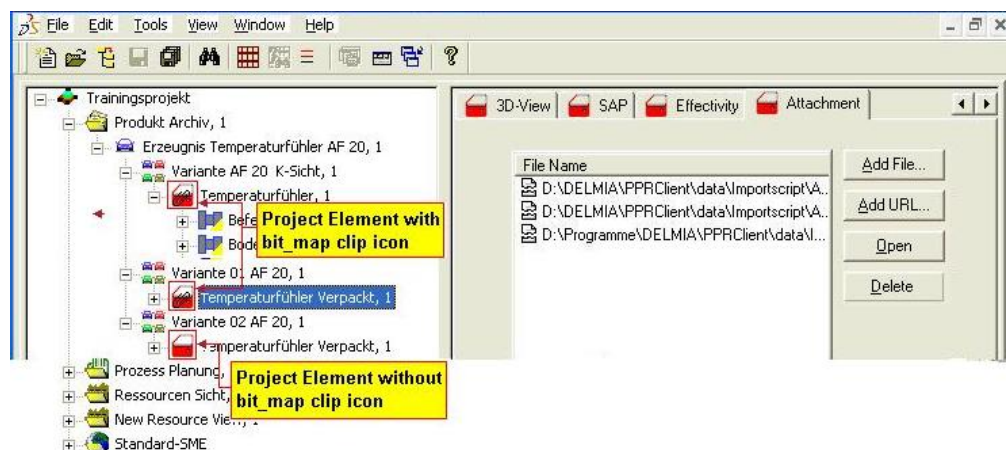

Figure 70: Project Elements with Attachments
- 4) Select **Attachment** tab. Attach the files in **Attachment** dialog. Project elements having attachments are displayed with overlaid `bitmap_clip` icon. Objects those not having the attachment are displayed with the pre assigned icons. *Please refer to the Figure 70.*